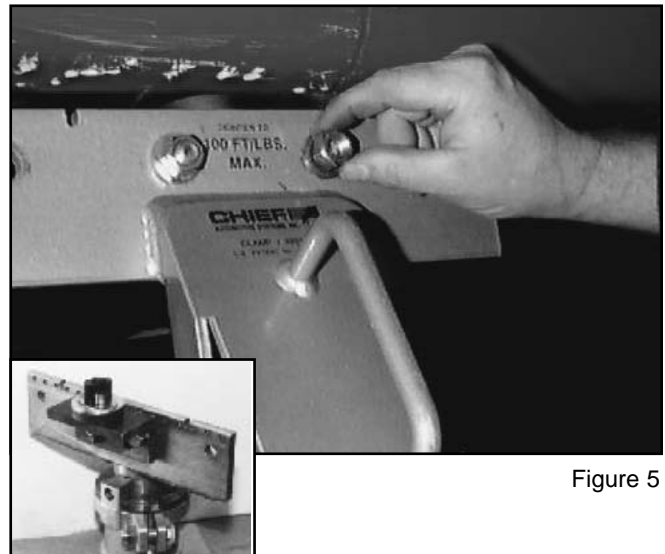

Figure 5
- a. When mounting to UMS stand or UAS stand with adapter tube, align outer holes of hold down bracket with inner holes of anchoring stand. Use anchoring stands existing bolts, nuts and washers to secure the assembly. (See Figure 5 and its inset.)